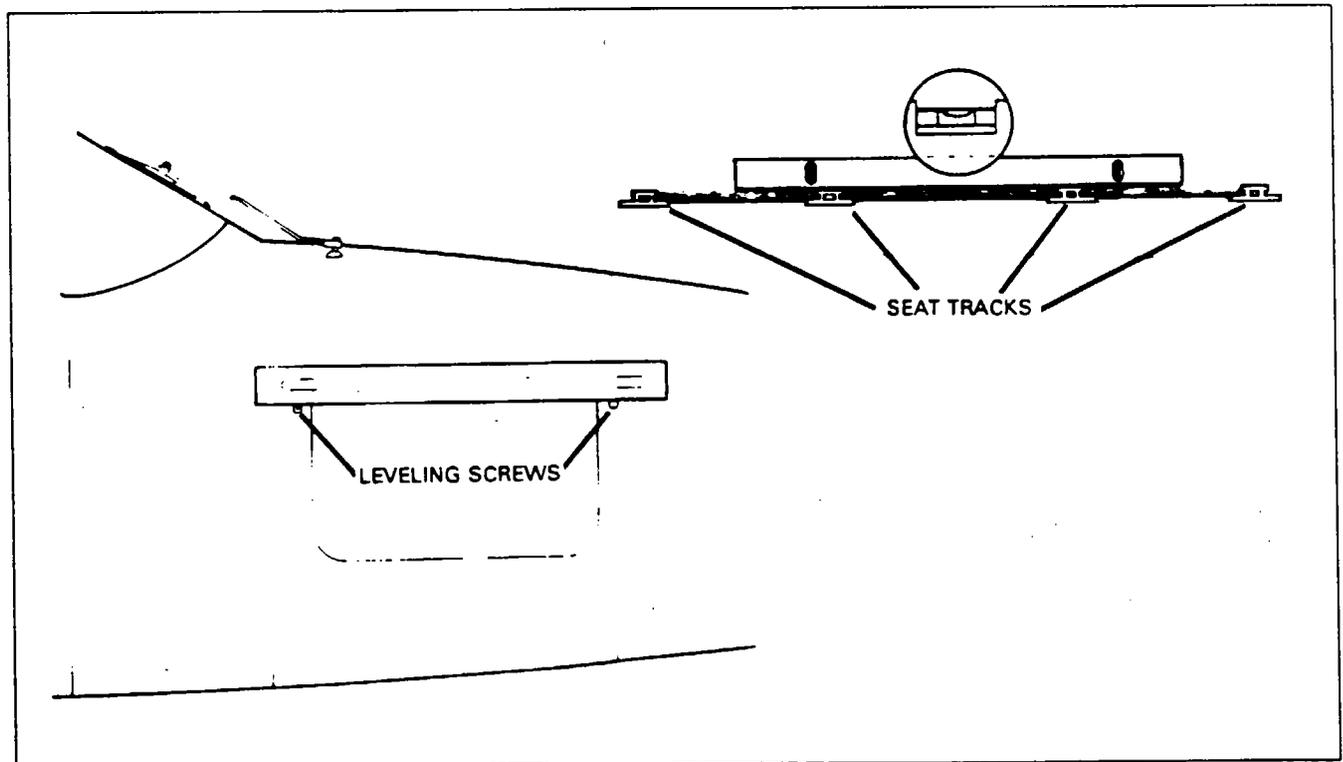

Figure 8-1. Leveling
**LEVELING.** (Refer to Figure 8-1.)